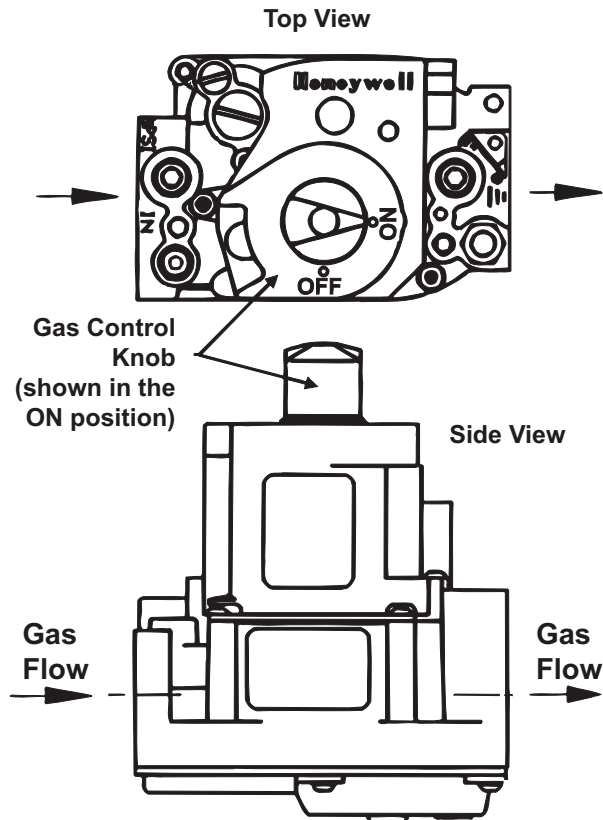

Figure 16. Gas Valve ON/OFF Control
3. Open access door and locate gas control (ON/OFF) knob or switch on gas valve (see Figure 16).